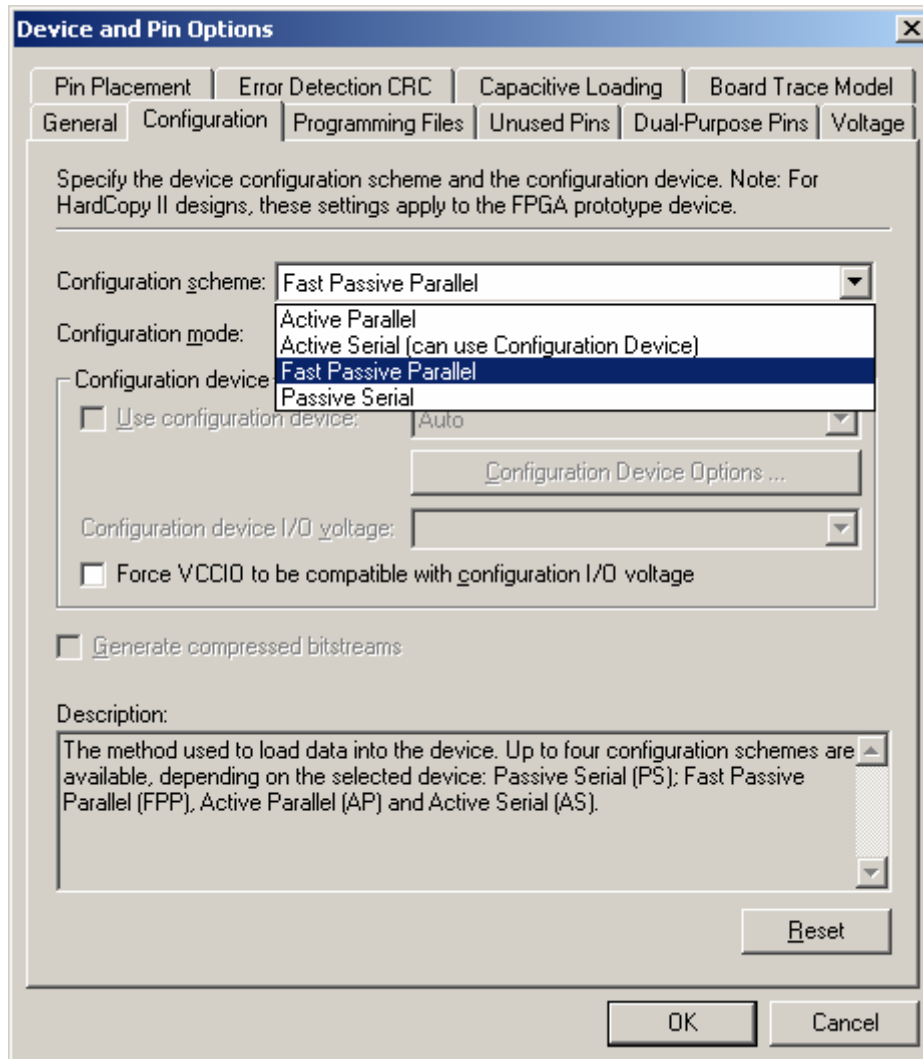

Figure 6-1 Configuration tab
4. Click [Configuration] tab and select [Fast Passive Parallel] or [Passive Serial] in [Configuration Scheme] combo box (Figure 6-1).